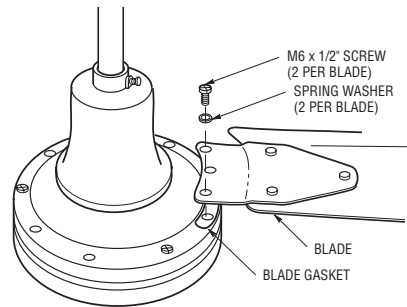

Figure 3
It is critical that the clevis pin in the motor coupling is properly installed and the setscrews securely tightened. Failure to verify that the pin and setscrews are properly installed (as shown in Figure 3) could result in the fan falling.
- 5. Slide the lower canopy down the hanger pipe and securely tighten the set-screw against the hanger pipe. (See Figure 3.)
- 6. Install the blade gaskets between the blades and the motor. (See Figure 3.)